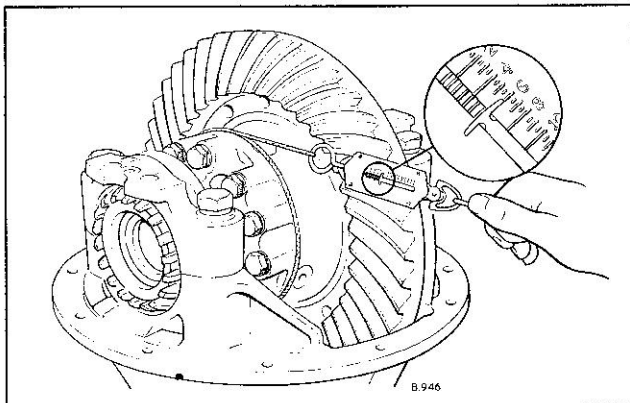

Fig. 9 Differential Pre-load Check
- b) Using a spring balance attached to the free end pull tangentially to the outer diameter of the casing (Fig. 9).